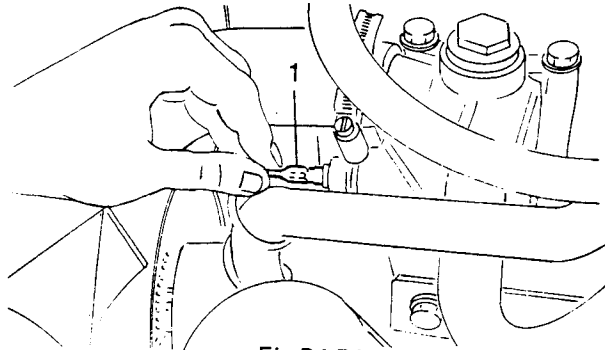

Fig B4.74
(10) Refer to Fig B4.74. Reconnect the wire to the coolant temperature transmitter (1).
(11) Position the heater hoses and secure with the clamp on the inlet manifold.
(12) Reconnect the bypass hose, the heater hoses and the top radiator hose.